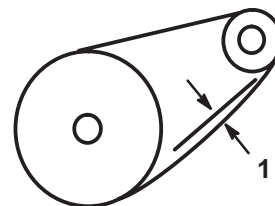

Figure 34
7. Check the deflection of the chain by lifting up on it with moderate pressure at the mid span. There should be a 1/8 to 3/8 inch (3 to 10 mm) deflection (Fig. 34).